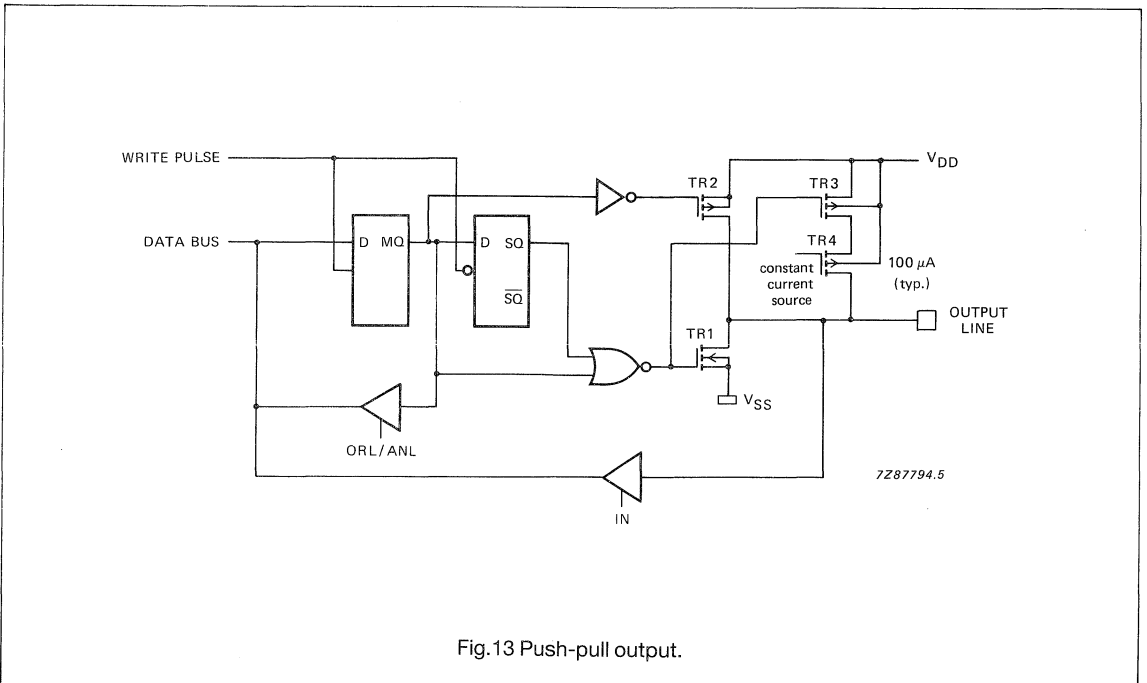

Fig.13 Push-pull output.
- Option 3 PUSH-PULL OUTPUT; drive capability of the output will be 1.5 mA (typical) at  $V_{DD} = 3$  V in both polarities. To avoid a large current flowing through the output transistors during the input mode, these push-pull pins must only be used as outputs (Fig.13).